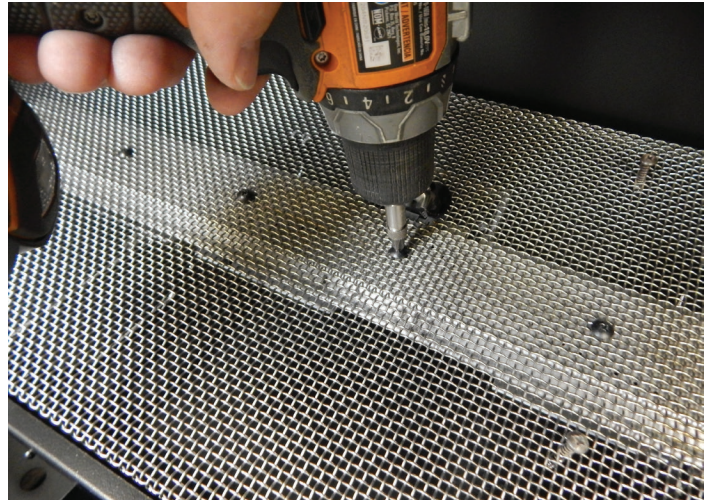

Figure 2
9. Remove (9) Phillips Truss head screws that secure the Burner Screen to the burner. **See Figure 2.** Lift up the Burner Screen Cover to remove and set aside.